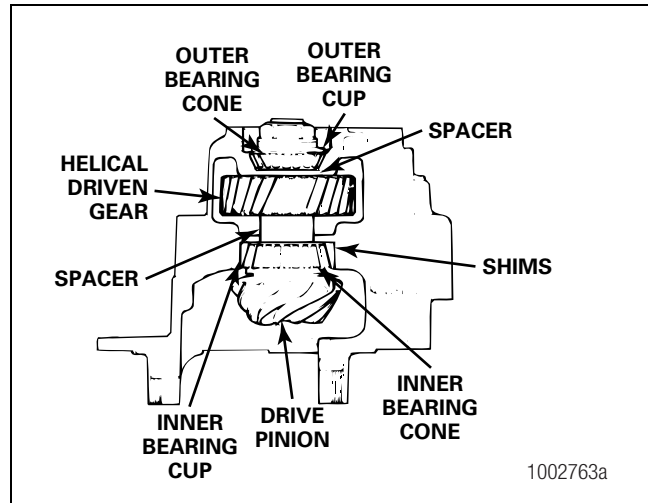

Figure 5.1
**NOTE:** Use this procedure if you'll install a new drive pinion and ring gear set or if you have to adjust the depth of the drive pinion. If the pinion depth shims are misplaced during carrier repair, use 0.030-inch (0.76 mm) for 145 Series axles and 0.050-inch (1.27 mm) for 160 Series axles for the initial pinion position. Figure 5.1.